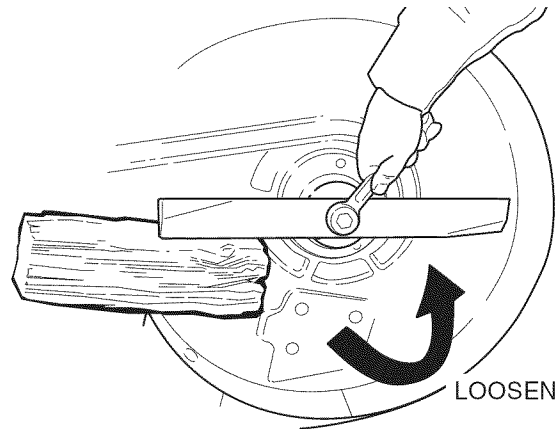

Figure 23. Blade Removal
2. Remove blade to inspect it or to safely access the underside of the mower deck (see Figure 23). Use a block of wood to prevent blade rotation while loosening the capscrew by turning it counterclockwise.